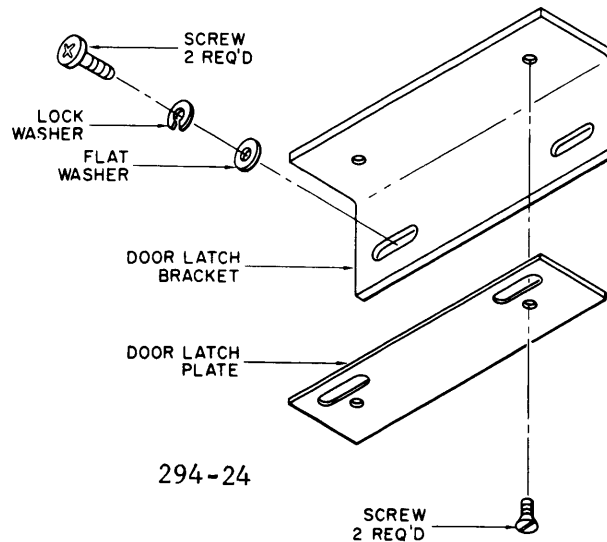

Figure 4-24. Door Latch Plates and Brackets, Installation Diagram.
(1) Assemble door latch plates, figure 4-24, to door latch brackets with two phillips flat head screws.